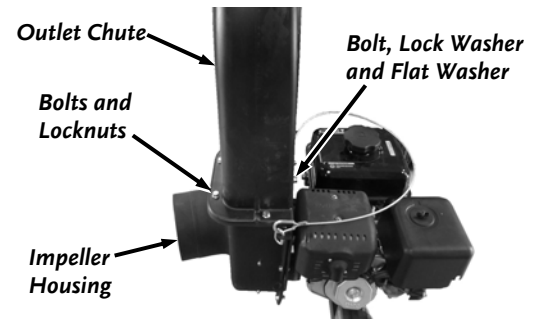

Figure 14
1. Place the Outlet Chute on top of the Impeller Housing and loosely install the Engine side with a 5/16-18 X .75" Bolt, Lock Washer and Flat Washer using a 1/2" Wrench (**Figure 14**).